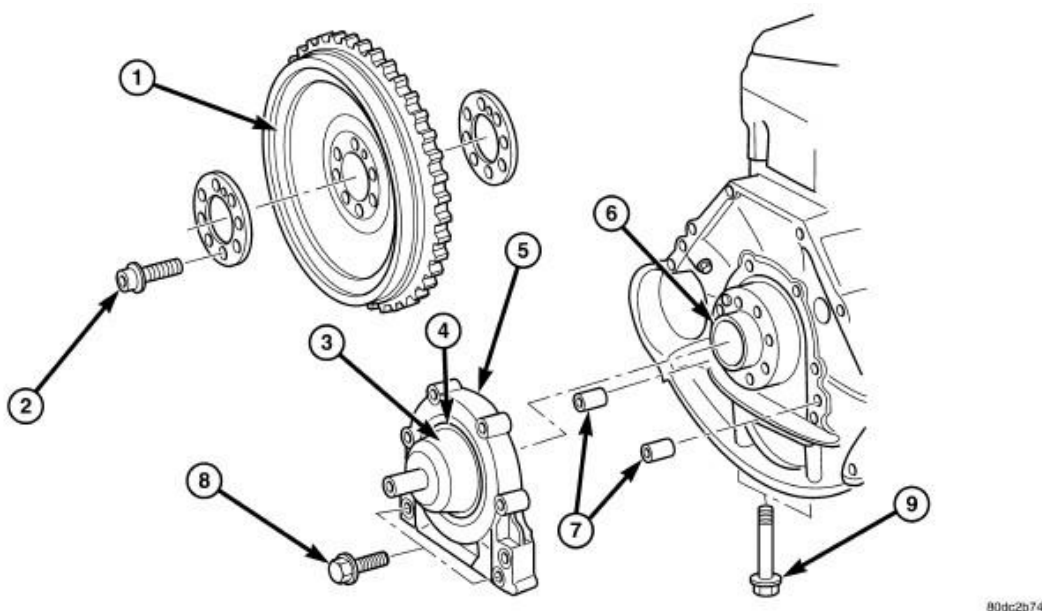

Fig. 173: Rear Crankshaft Seal/Adapter
7. Remove the rear crankshaft seal adaptor retaining bolts (8) and carefully pry adaptor (5) from crankcase at adaptor shoulders . See **Fig. 173**.